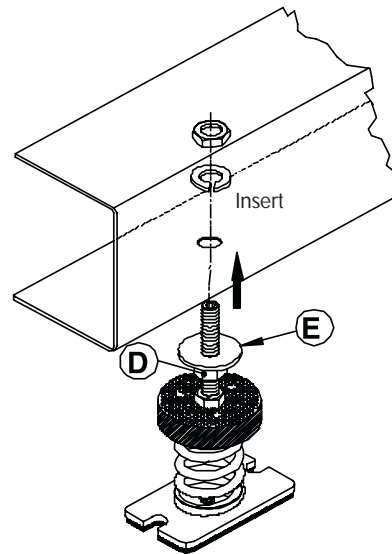

Fig. 2
- Fig. 2) Insert the jack into the threaded seat arranged on the upper plate of the vibration-damping device. Insert the jack assembled on the vibration-damping device into the hole arranged on the bedplate of the machine.